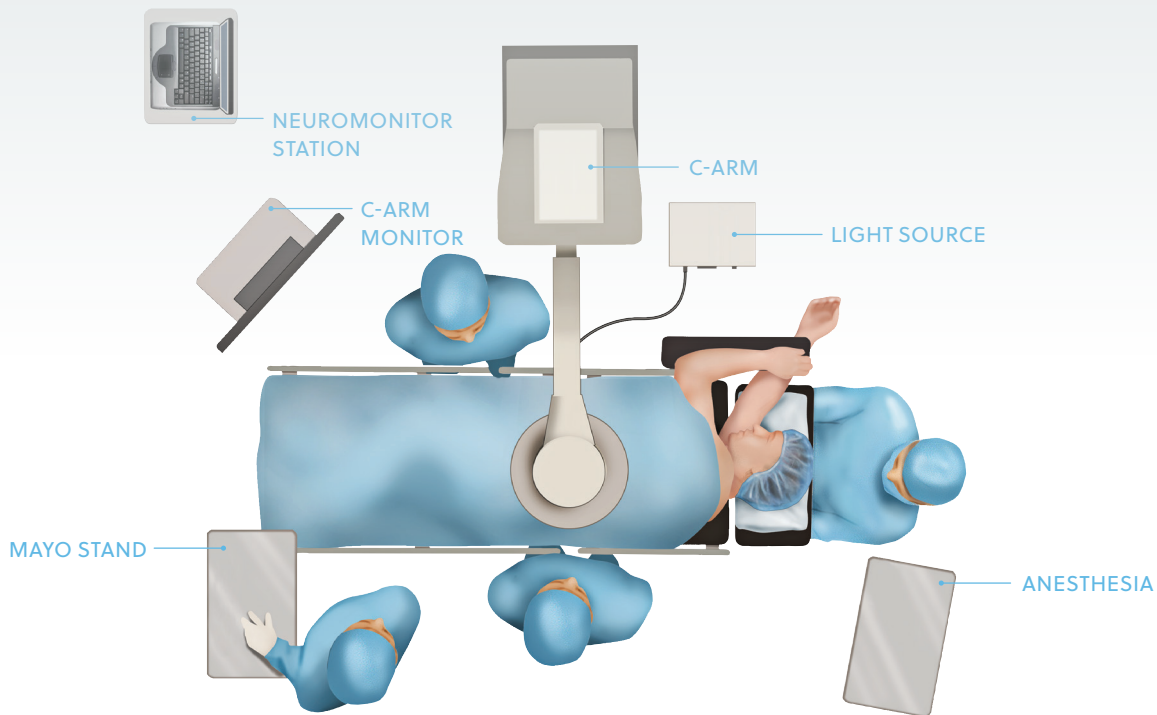

Figure 1
- The operative suite should be laid out such that it is conducive to the lateral approach procedure (**Figure 1**).